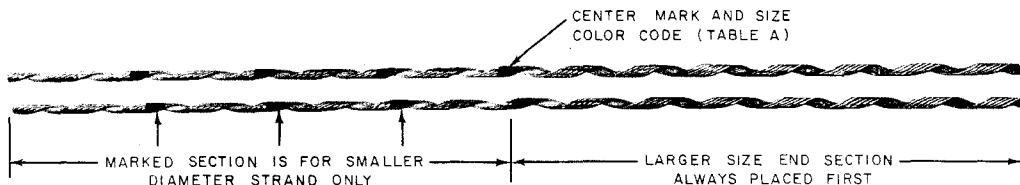

Fig. 1—B Strand Reducer
- 2.03 The center color marking on each subset indicates the smaller size of strand to be joined. Additional markings of the same color on half the length of each set indicate that this section is to be applied on the smaller diameter strand. The unmarked half portion should be installed on the closely related larger size strand in the splice. Fig. 1 illustrates the two subsets that comprise the B Strand Reducer.